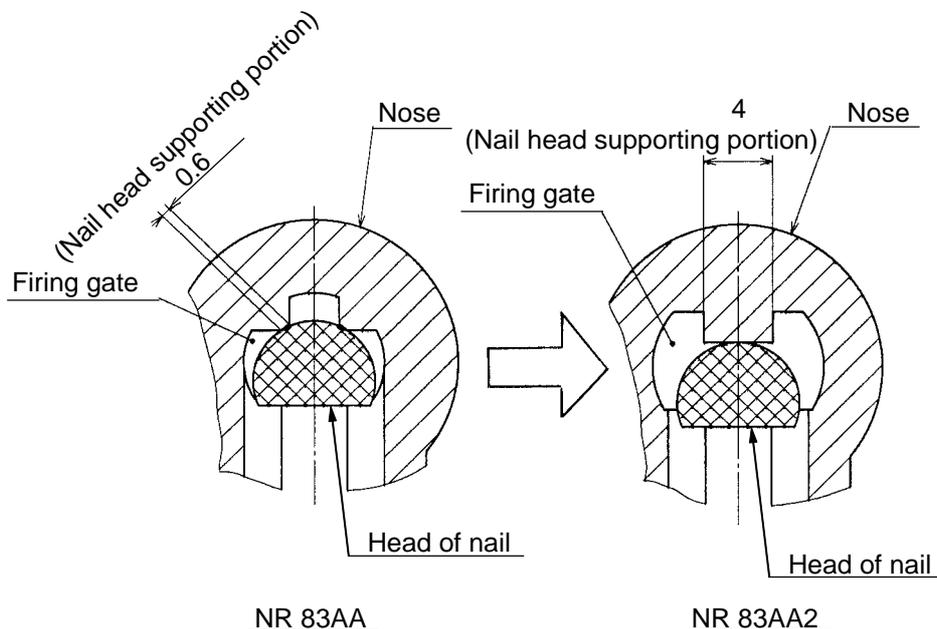

Fig. 3
- The nail head supporting portion of the nose is widened as shown in Fig. 3 (same construction as Paslode F-350s) to cope with the problem that some of the commercially available nails are apt to clog due to the nail supporting portion is narrow and is apt to wear. Two spring supporters are provided to mount the depth adjustment pushing lever kit (optional accessory).